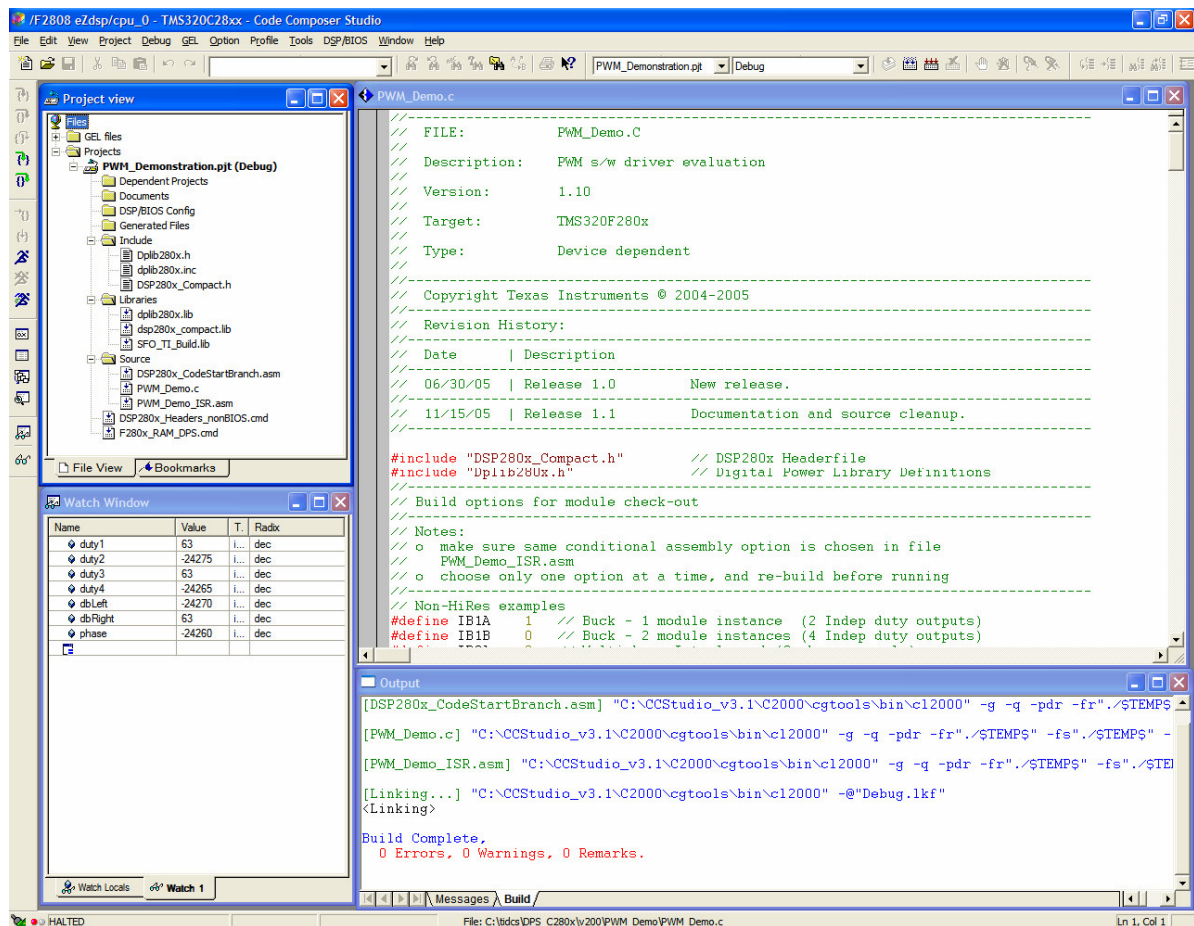

Figure 4. CCS workspace screen capture from the PWM_Demo example.
6. Once this is done, the expanded project view as part of the CCS environment will be as shown in Figure 4, **PWM_Demo.wks**.